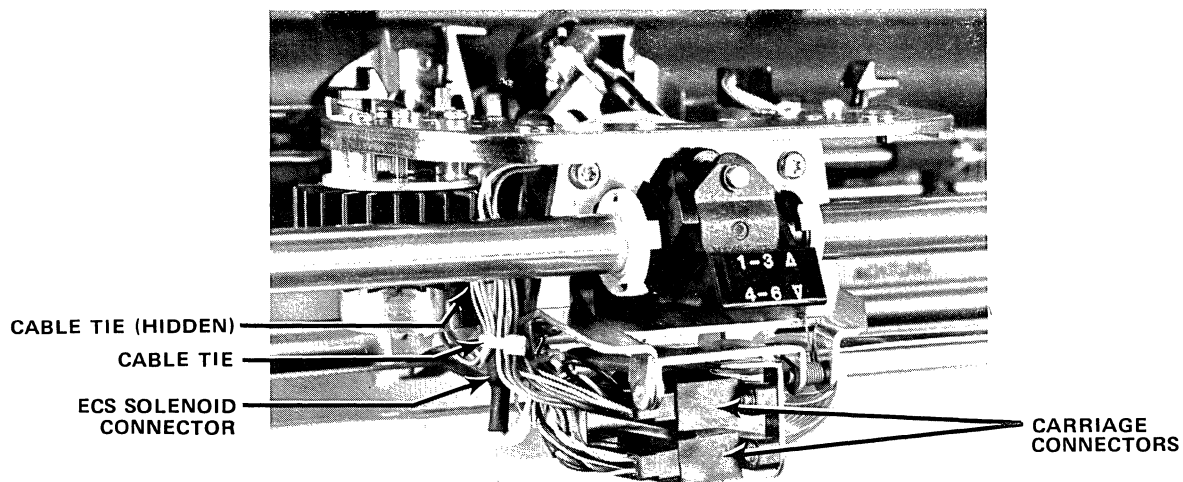

Figure 4-31. ECS CARRIAGE CABLES
- 5) Cut the cable tie that ties the two carriage cables together (Fig. 4-31).
- 6) Unplug the ECS solenoid connector (Fig. 4-31).
- 7) Unplug the two carriage connectors (Fig. 4-31).
- 16) Install two cable ties on the upper carriage cable as shown in Figure 4-31).